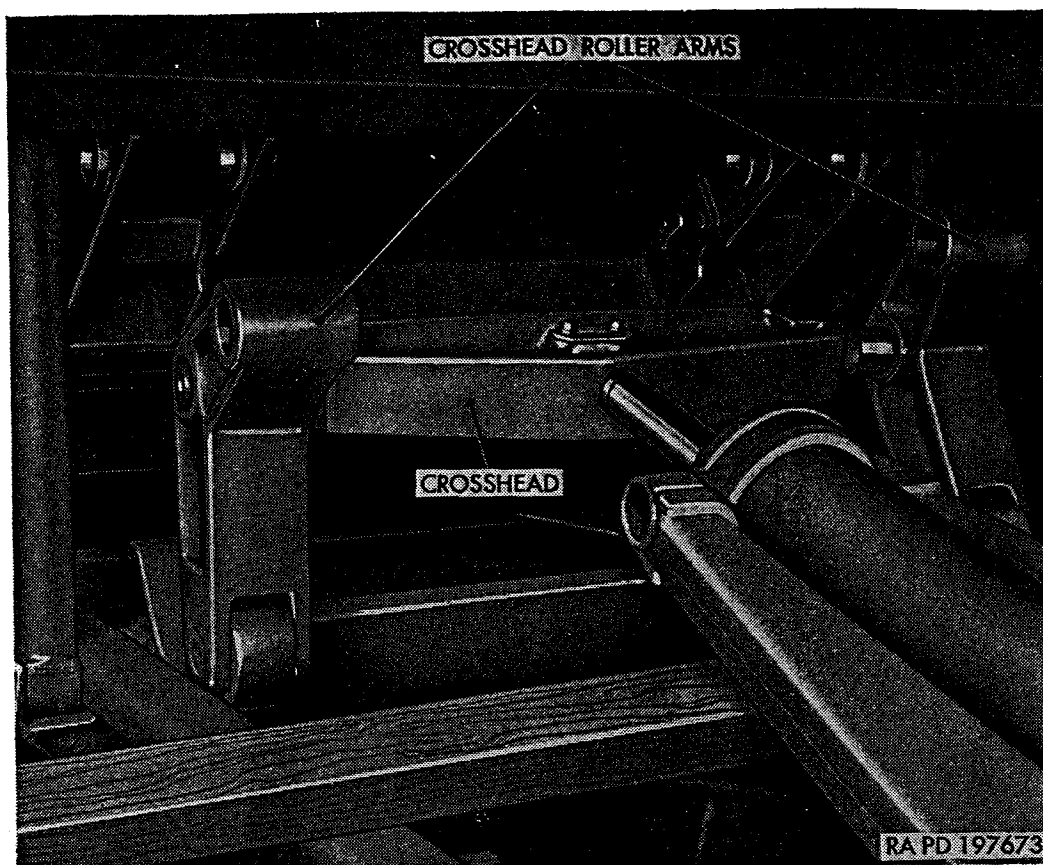

Figure 357. Hoist roller arms disconnected.
- (5) *Remove crosshead roller arm* (fig. 357). When lifting pins are removed and piston rod retracted, roller arms can be lifted from crosshead.
- (1) *Install crosshead roller arm* (fig. 357). Install roller arm at each end of crosshead, with roller resting on subframe track.